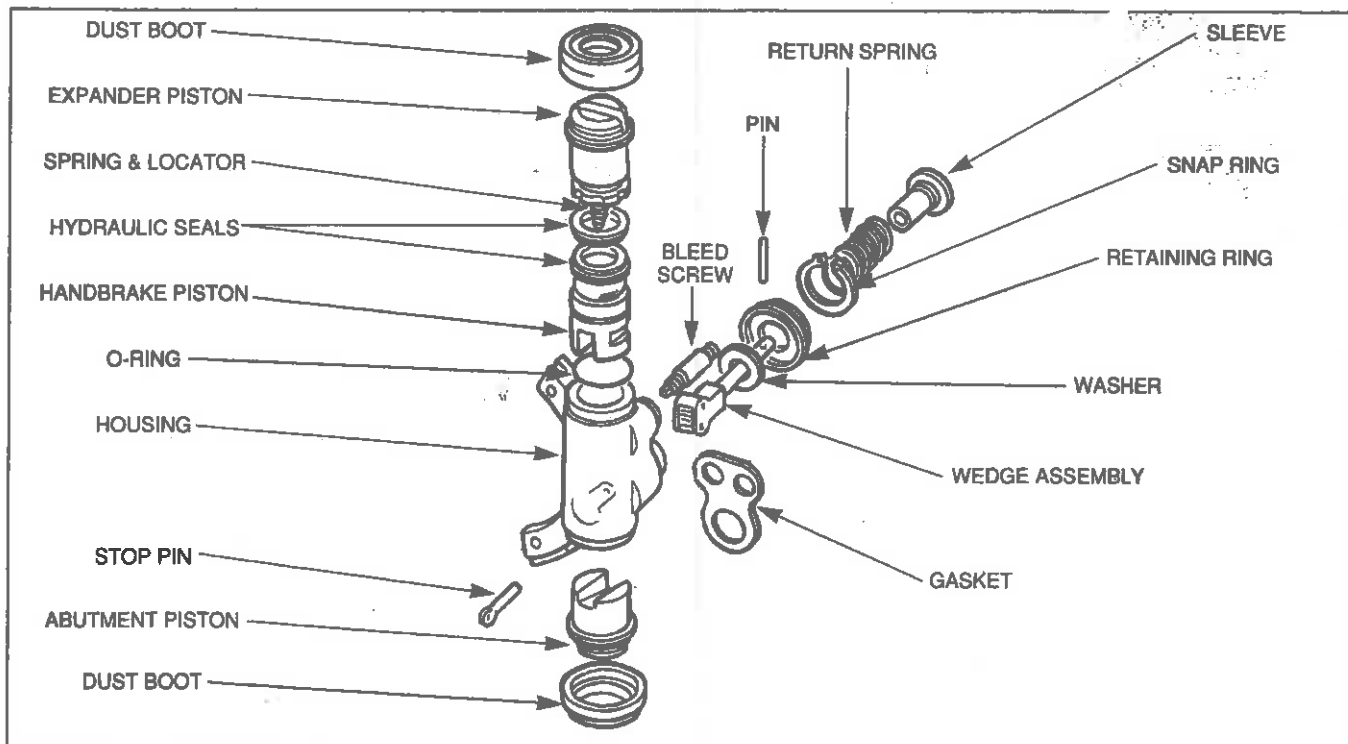

figure 1
21. Install the abutment piston into the bore with the deep cut end of the handbrake wedge ramp toward the wedge assembly (see figure 1). Using care, install the dust boot onto the housing.
23. Using a new gasket install the cylinder onto the backing plate. Torque the mounting bolts to the vehicle manufacture's specifications. It is not necessary to reinstall the two (2) allen head screws. These were originally installed for shipping purposes only.